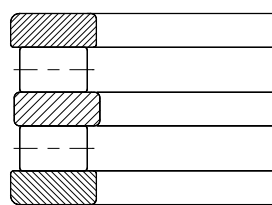

Fig. 2.19
**Double direction acting cylindrical roller thrust bearings** (fig. 2.19) may be built using components of single direction acting cylindrical roller thrust bearings together with **intermediate washers ZS**.